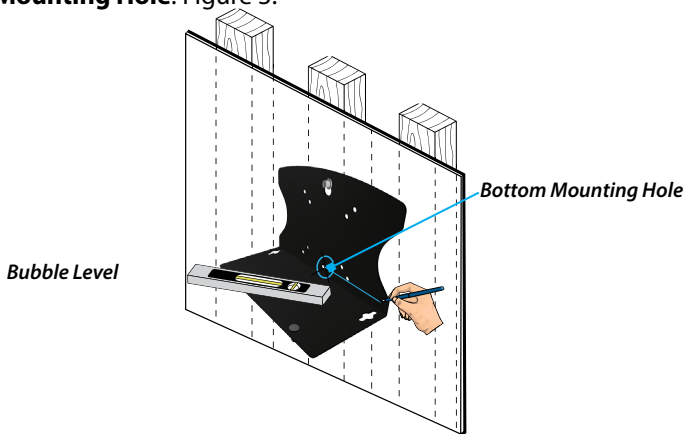

Figure 3
6. Use the **Bubble Level** to ensure the base of the **Wall Mount Bracket** is **Horizontal**. Figure 3.
7. Use a **Pencil** to mark the **Center** of the **Stud** on the **Bottom Mounting Hole**. Figure 3.